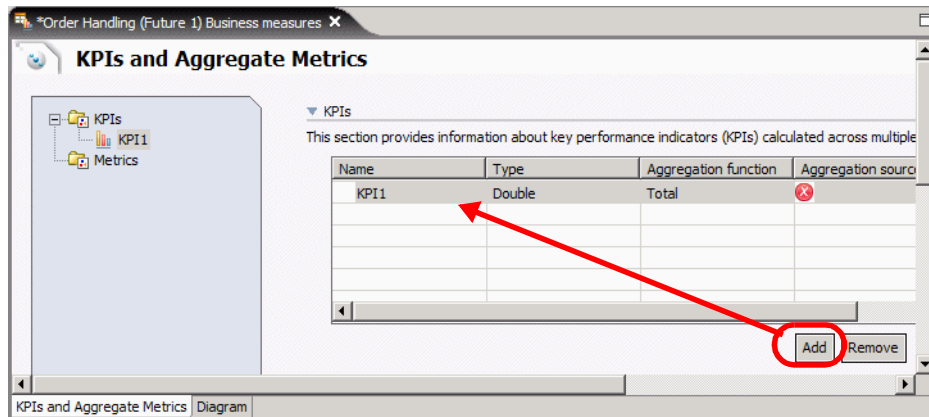

Figure 8-14 Creating a KPI
- ▶ In the KPIs section, click *Add* under the table and a row is added in the table (Figure 8-14).